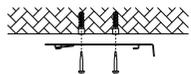

Figure 5
3. Drill the rubber plug into the ceiling, then fix the plate to the ceiling. (Figure 5).